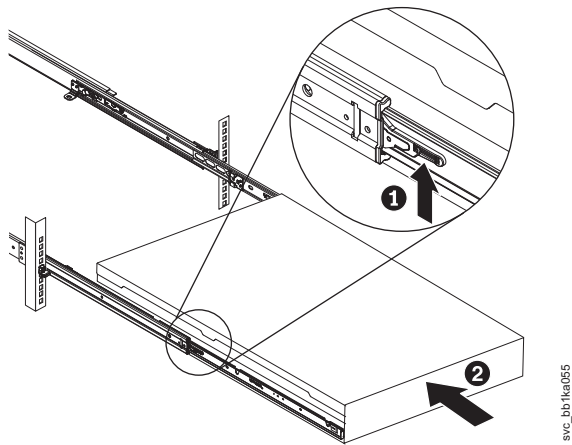

Figure 192. Raising the locking levers of the slide rails of the rack
9. Lift the locking levers (**1** in Figure 192) on the slide rails and push the node **2** all the way into the rack until it clicks into place.